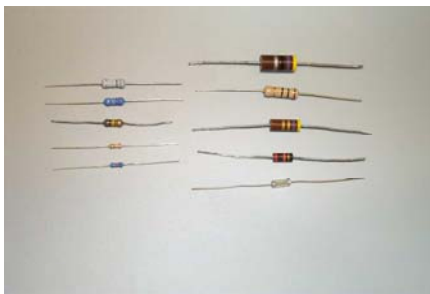

Figure 3 - Various resistors. Larger resistors have higher power ratings. The resistor circuit symbol is shown on the right.
*Resistors* (Figure 3) are the small, usually light brown tubular things with wires (leads) sticking out of each end and four colored rings on the body. The colored rings correspond to the resistor's value. Use the resistor color code guide supplied in the lab kit to determine a resistor value.